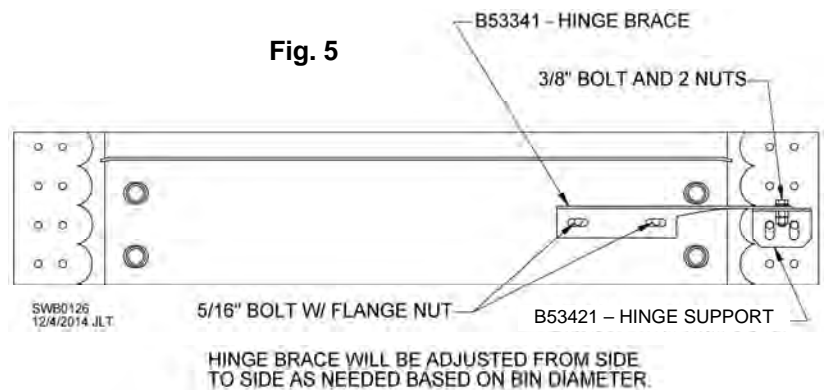

Fig. 5
9. Loosen 5/16" bolts and slide hinge braces over until hinge holes line up with holes in hinge supports. See Fig. 5. Insert a 3/8" bolt through each hole and turn nut on loosely.
11. Turn 3/8" nuts all the way onto hinge bolts, then back them off 1/2 to 3/4 turn. Place a second 3/8" nut onto each 3/8" bolt to lock them into place. See Fig. 5. Double-check door panels to ensure 3/8" bolts are not too tight and door panels can open freely and close securely over pegs.
Insert sidewall/splice bracket bolts from inside of bin to create a watertight seal. If outside ladder brackets are used at that same location, remove washer and place between outside bracket and sidewall. See Fig. 5.